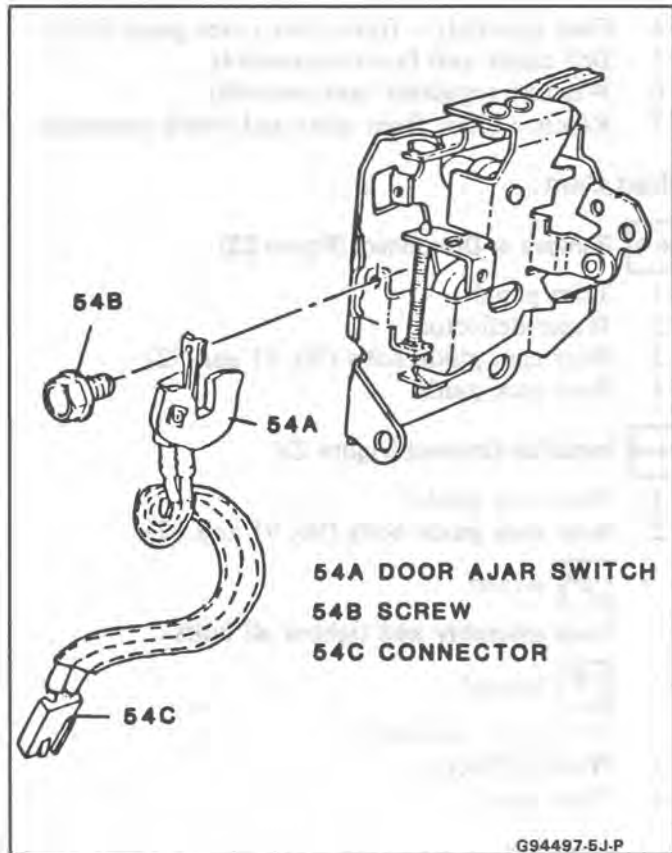

Fig. 26 - Installing Door Ajar Switch
4. Door ajar switch wire connector from main harness (54C, Fig. 26)
5. Lock assembly screws – lower assembly to disengage outside handle lock rod (50)
6. Lock assembly (54)
5. Door ajar switch wire connector to main harness (54C, Fig. 26)
#### ↔ Remove or Disconnect (Fig. 26)